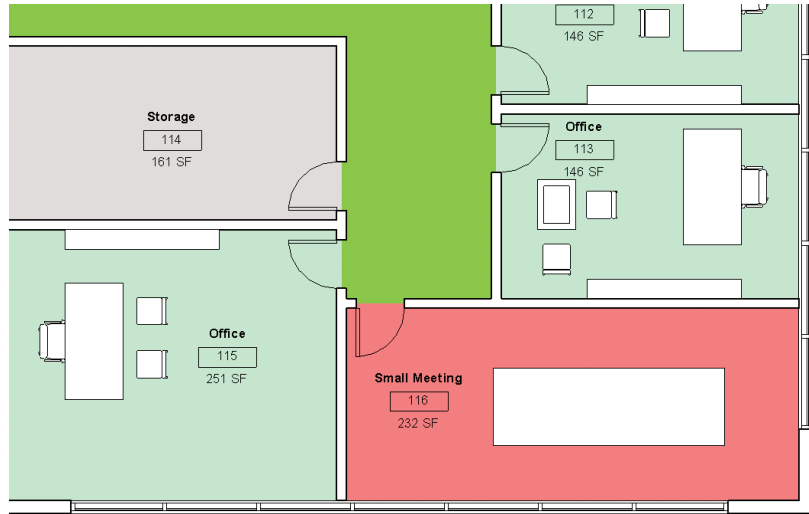

FIGURE 10.20 Adding the table to the project
5. Place a new instance of the table in the project (Figure 10.20). Again, because Interior is the active workset, the table is assigned accordingly.